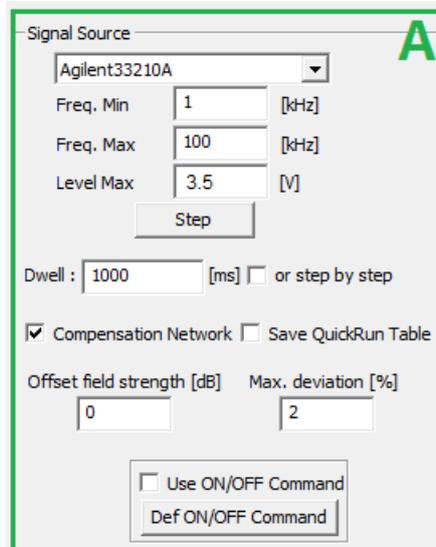
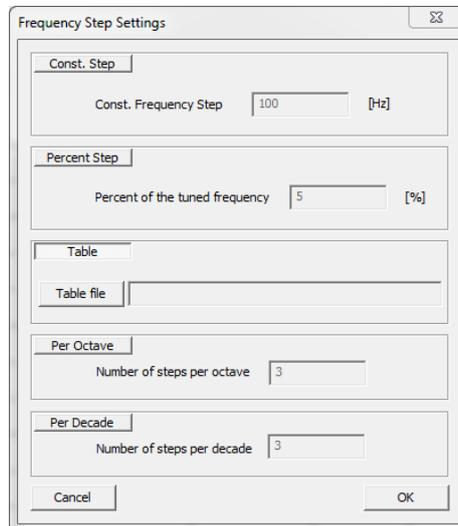

Figure 27: detailed view of Area “A”.
Figure 28: the frequency step settings panel.
Using the options available in this area (see detailed view in Figure 27) it is possible to select the proper function generator from the list. The function generator will be used to provide the input signal to the power amplifier. It is also possible to set the minimum and maximum working frequencies (in kHz) and the maximum output level (in Volt, peak to peak). It is suggested not to exceed the 3.5 Vpp in order to avoid to overload the power amplifier.
The user has the possibility to define the step size, which is defined as the number of data points taken in a determined frequency interval. By clicking on the “Step” button (see Figure 27), the frequency step setting panel (shown in Figure 28) will be opened. In this panel it is possible to select between different options, which allow to choose the proper number of frequency steps:
1. **automatic mode:** the EuT will be exposed for a defined time at each test frequency; the transition to the following test frequency will be performed automatically. If the tests must be performed using this mode, the user must only define the **Dwell** time, by entering the wished time interval in the dedicated field (See Figure 27). The Dwell time is expressed in milliseconds ( $1 \text{ ms} = 10^{-3} \text{ s}$ );